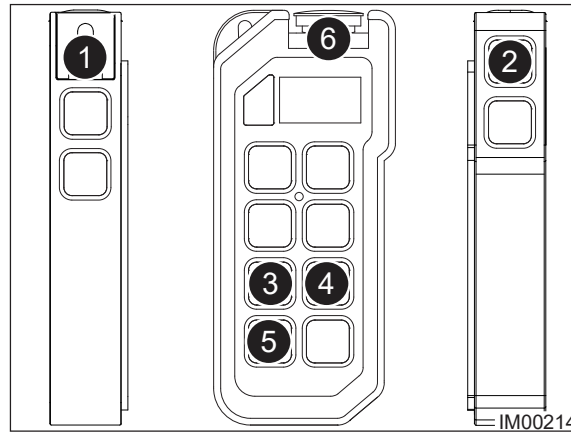

Fig: 8.14 - Radio Remote Handset
6. On the radio remote handset, push the Toggle Switch (Item 1, Fig: 8.14) to the Left, Screener position.
7. Turn on the remote control by pressing the Green Activate Handset button (Item 2, Fig: 8.14) on the side of the handset.
8. Press the Green Activate Handset button (Item 2, Fig: 8.14) a second time to activate the handset.
10. On the radio remote handset, press the Oversize & Middle Grade Conveyor Start button (Item 3, Fig: 8.14).
11. Press the Collection & Fines Conveyor Start button (Item 4, Fig: 8.14).
12. Observe the hydraulic oil temperature on the Machine Operating Screen (Fig: 8.16). When the hydraulic oil temperature reaches 15°C (59°F), press the Vibrating Screen Box Start button (Item 5, Fig: 8.14) on the radio remote handset.